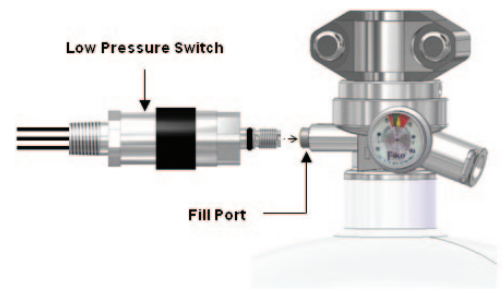

FIGURE 1
Step 2: Remove and retain Plug from Fill Port. (see Figure 1)